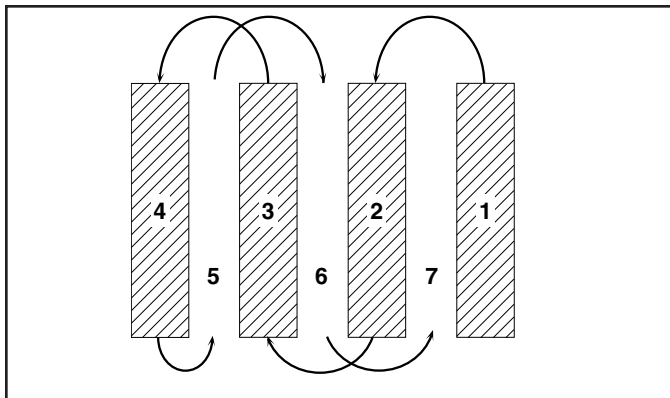

Fig. 15
TILLING HINTS (See Fig. 15)
- You will find tilling much easier if you leave a row untilled between passes. Then go back between tilled rows. (See Fig. 15) There are two reasons for doing this. First, wide turns are much easier to negotiate than about-faces. Second, the tiller won't be pulling itself, and you, toward the row next to it.